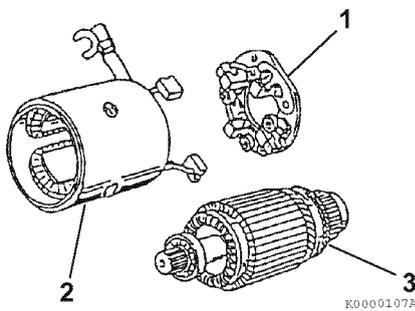

Figure 11-6
- Remove the brush holder assembly (1, Figure 11-6) from the armature assembly (3, Figure 11-6).
- Pull the armature assembly (3, Figure 11-6) out from the field coil assembly (2, Figure 11-6).